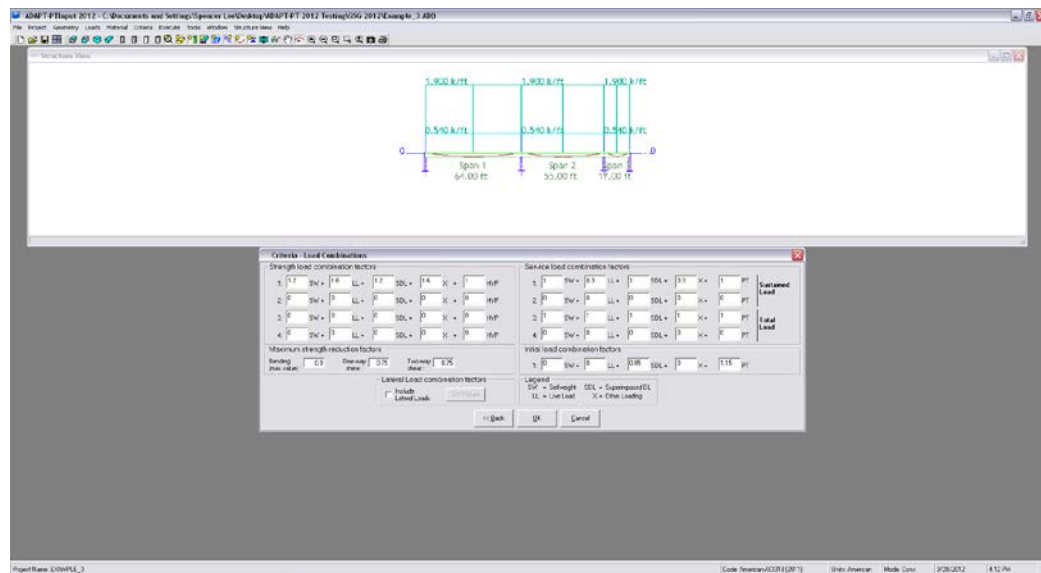

FIGURE 4.2-20
4.2.5.7 Input Load Combinations (Fig. 4.2-20)